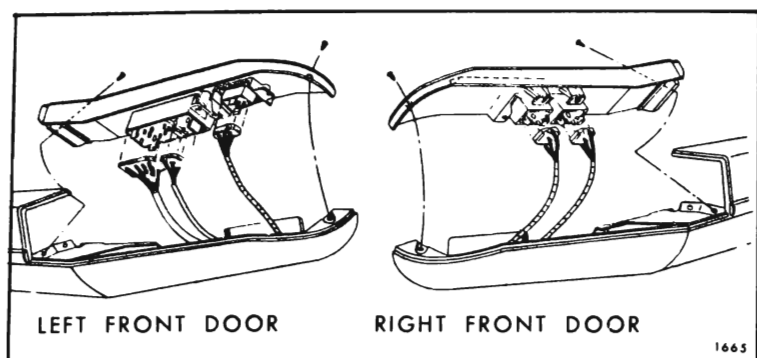

Fig. 7-12—Front Door Arm Rest Switch Cover Assembly
4. On styles with switch plate located in arm rest as shown in Figure 7-12, remove exposed screws and disconnect switches from wire harness connectors.